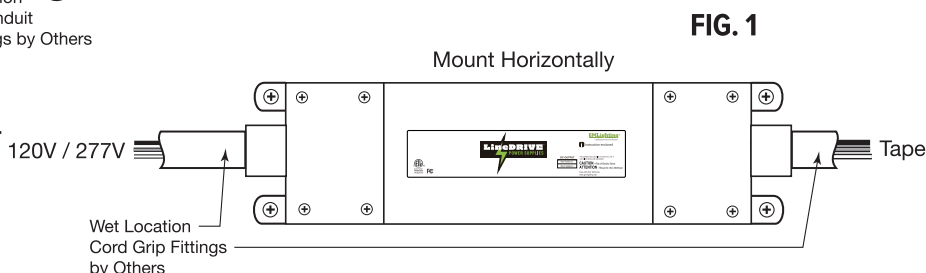

FIG. 2
2. CONNECTING TO 24V LED TAPE OR OTHER 24V FIXTURES. Connect Red (+) and Black (-) leads coming from power supply to matching (+) and (-) leads coming from tape. Use wire nuts (by others) or GM Lighting SureTite™ or Wet Location connectors to insure a reliable connection. **(FIG. 2).**